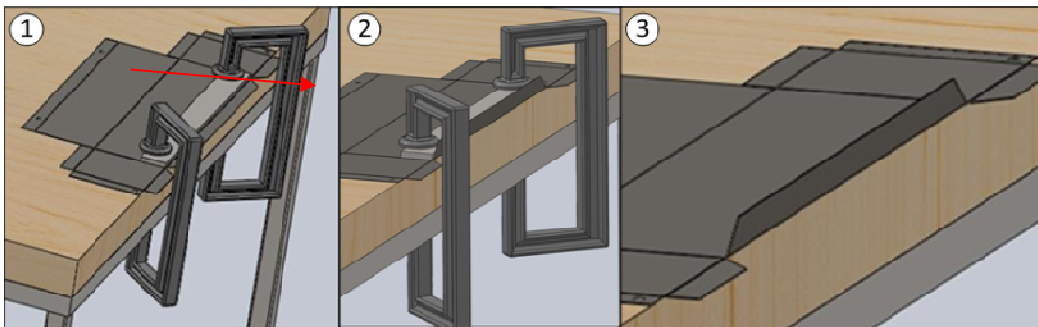

Figure 5: Bend #1- (1) Clamp Bending Bar down using Bar Clamps. (2) Bend flange up along 12" Bending Bar. (3) Finished work piece after Bend #1 is completed.
- C. Clamp the **Bending Bar** in place using two **12" Bar Clamps** as shown in Figure 5.
Note: When placing the clamps, make sure to leave a gap between the the clamp and the edge of the bending bar. The clamp should not be hanging over the edge of the bending bar where the bend is to be made as shown in Figure 5 (1).
- D.** Bend the flange up as shown in Figure 5(2). Use your hands to gently bend up the entire flange at one time. If it is too hard to bend by hand, use a second bending bar to hold underneath and against the flange and use your hands to bend the flange upwards.